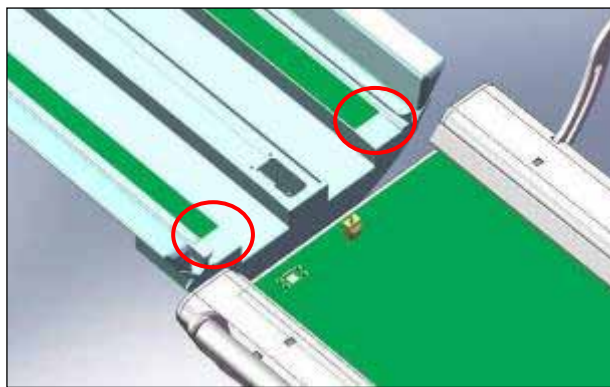

Figure 33
6. Next, use a flat straight edge to measure the co-planarity of the stretcher LBS surface and scanner bridge at the surfaces on which the wheels roll (see green surfaces in Figure 33). First, lay the straight edge on the scanner bridge, and attempt to slide the tool out over the stretcher. If it clears the stretcher, measure the gap. Repeat this process on both sides (left and right) of the bridge. If the tool will not slide over the stretcher, then lie the straightedge on the stretcher's Lower Body Support (LBS) and attempt to slide it out over the scanner's bridge. Ensure that the tool slides freely past the ramped section of the bridge, and continues to slide freely at least 6" (152.4mm) into the scanner. Measure the gap under the tool in both left and right wheel tracks.
7. Adjust the caster height by the measured amount from the higher surface. The lower body support must be level or no more than 3/64" (1mm) lower than the scanner's bridge, disregarding the sloped regions of the bridge (Figure 33).